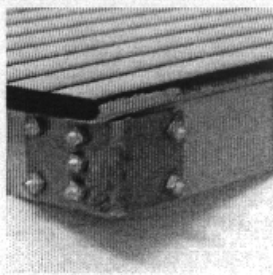

Figure 5
- 6) When the ca cement is dry, use a pin vise and 1/16" bit to drill out the holes in the corner braces for the bolt details. Then glue the bolt details into place with ca cement. (fig 5)